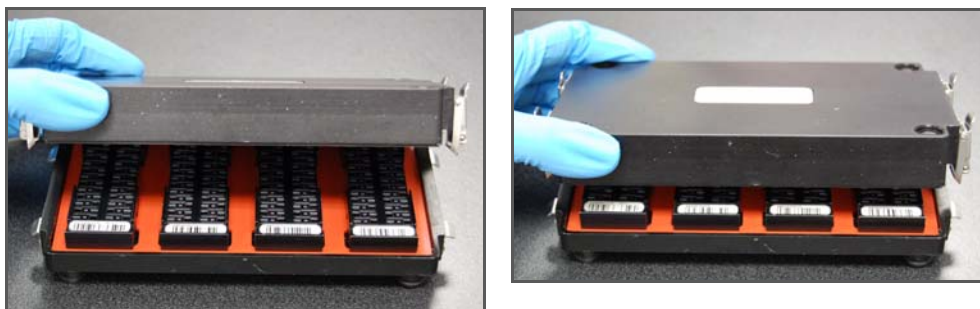

Figure 61 Secure Hyb Chamber Lid for Universal-32 BeadChip
6. Close and lock the BeadChip Hyb Chamber lid (Figure 61).